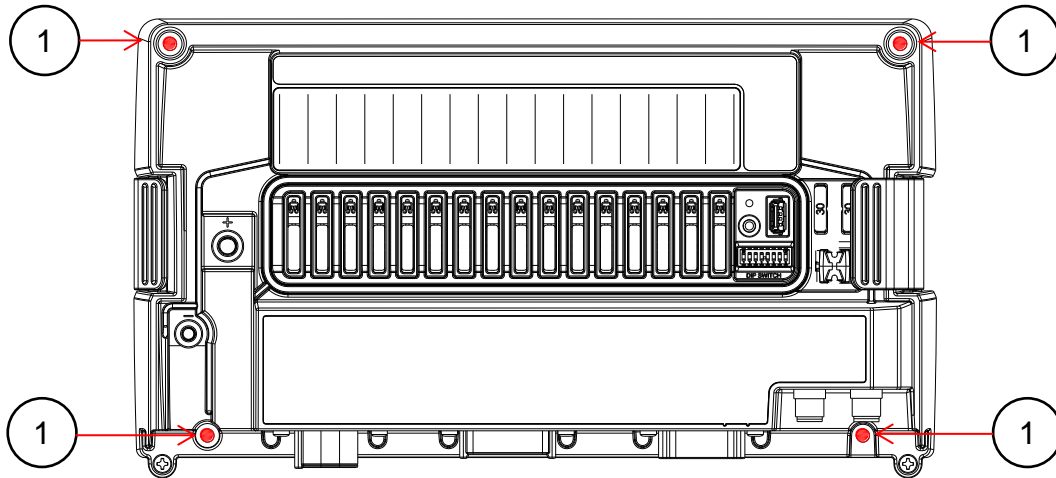

Figure 11. Mounting Screw Locations
1. Remove the COI top cover and locate the 4 mounting screw locators as shown in Figure 11